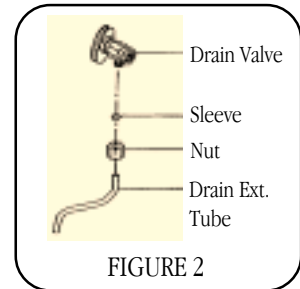

FIGURE 2
- Insert the drain extension tube into the drain valve as shown in figure 2.